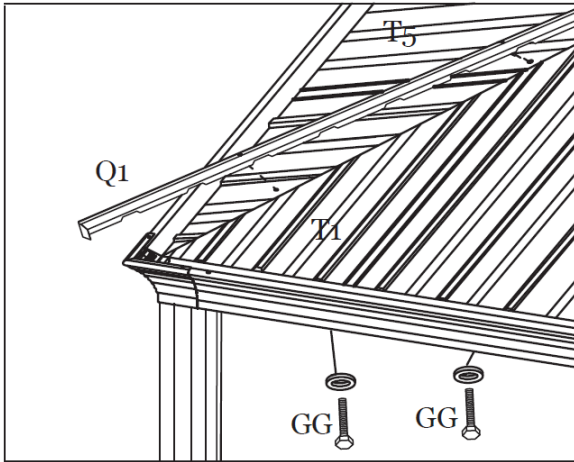
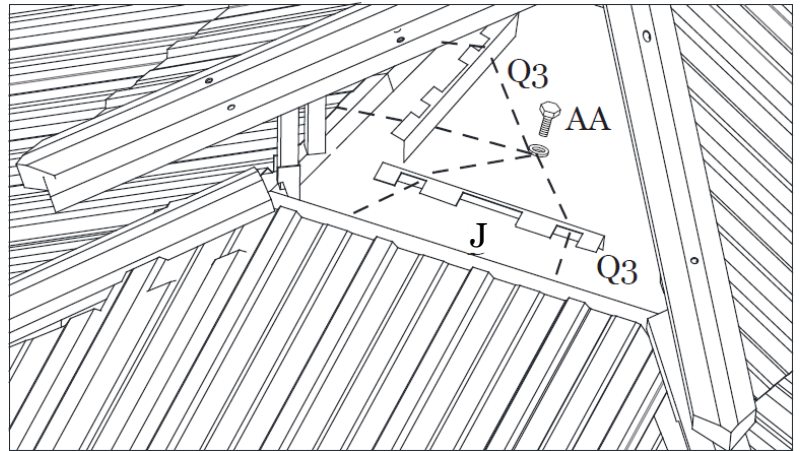
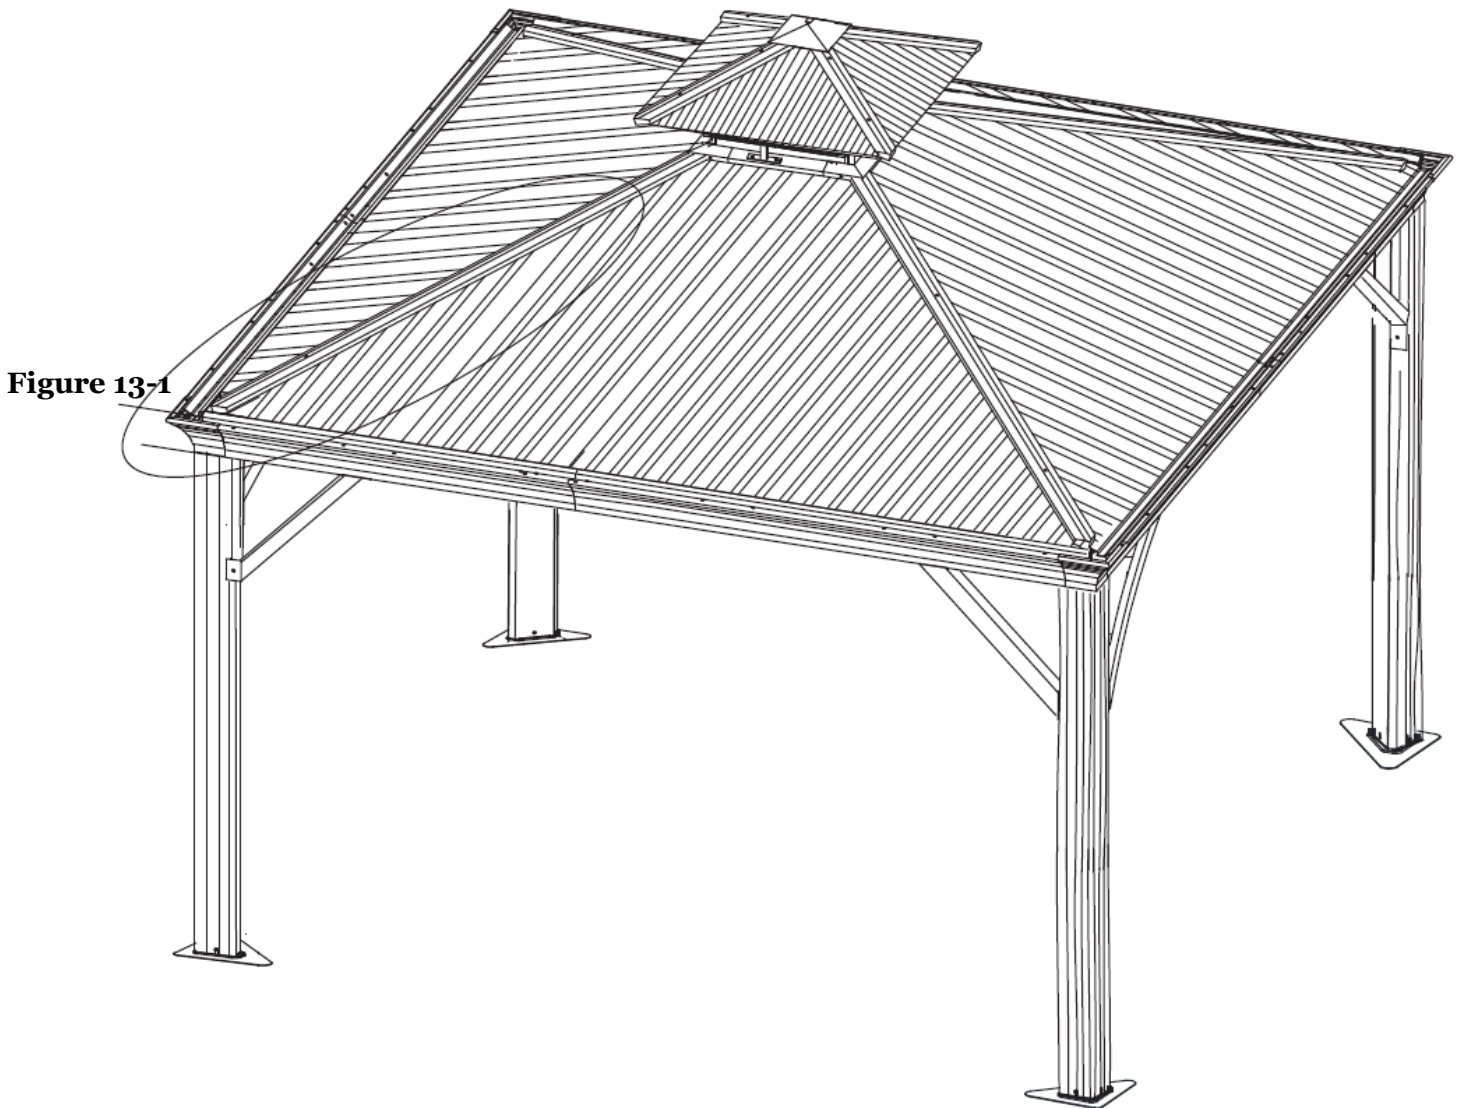

Figure 13-1
Figure 13-2
Figure 13-3
Step 13A: Attach the Main Roof Corner Trim (Q1) to the Main Roof Corner Support (H) using Bolt (GG). Repeat for all corners. See Figure 13-1 and Figure 13-3.
Step 13B: Attach the Main Roof Center Frame Trim (Q3) to the Main Roof Center Frame (J) using Bolts (AA). Repeat for all sides. **Tighten all Bolts.** See Figure 13-2 and Figure 13-3.